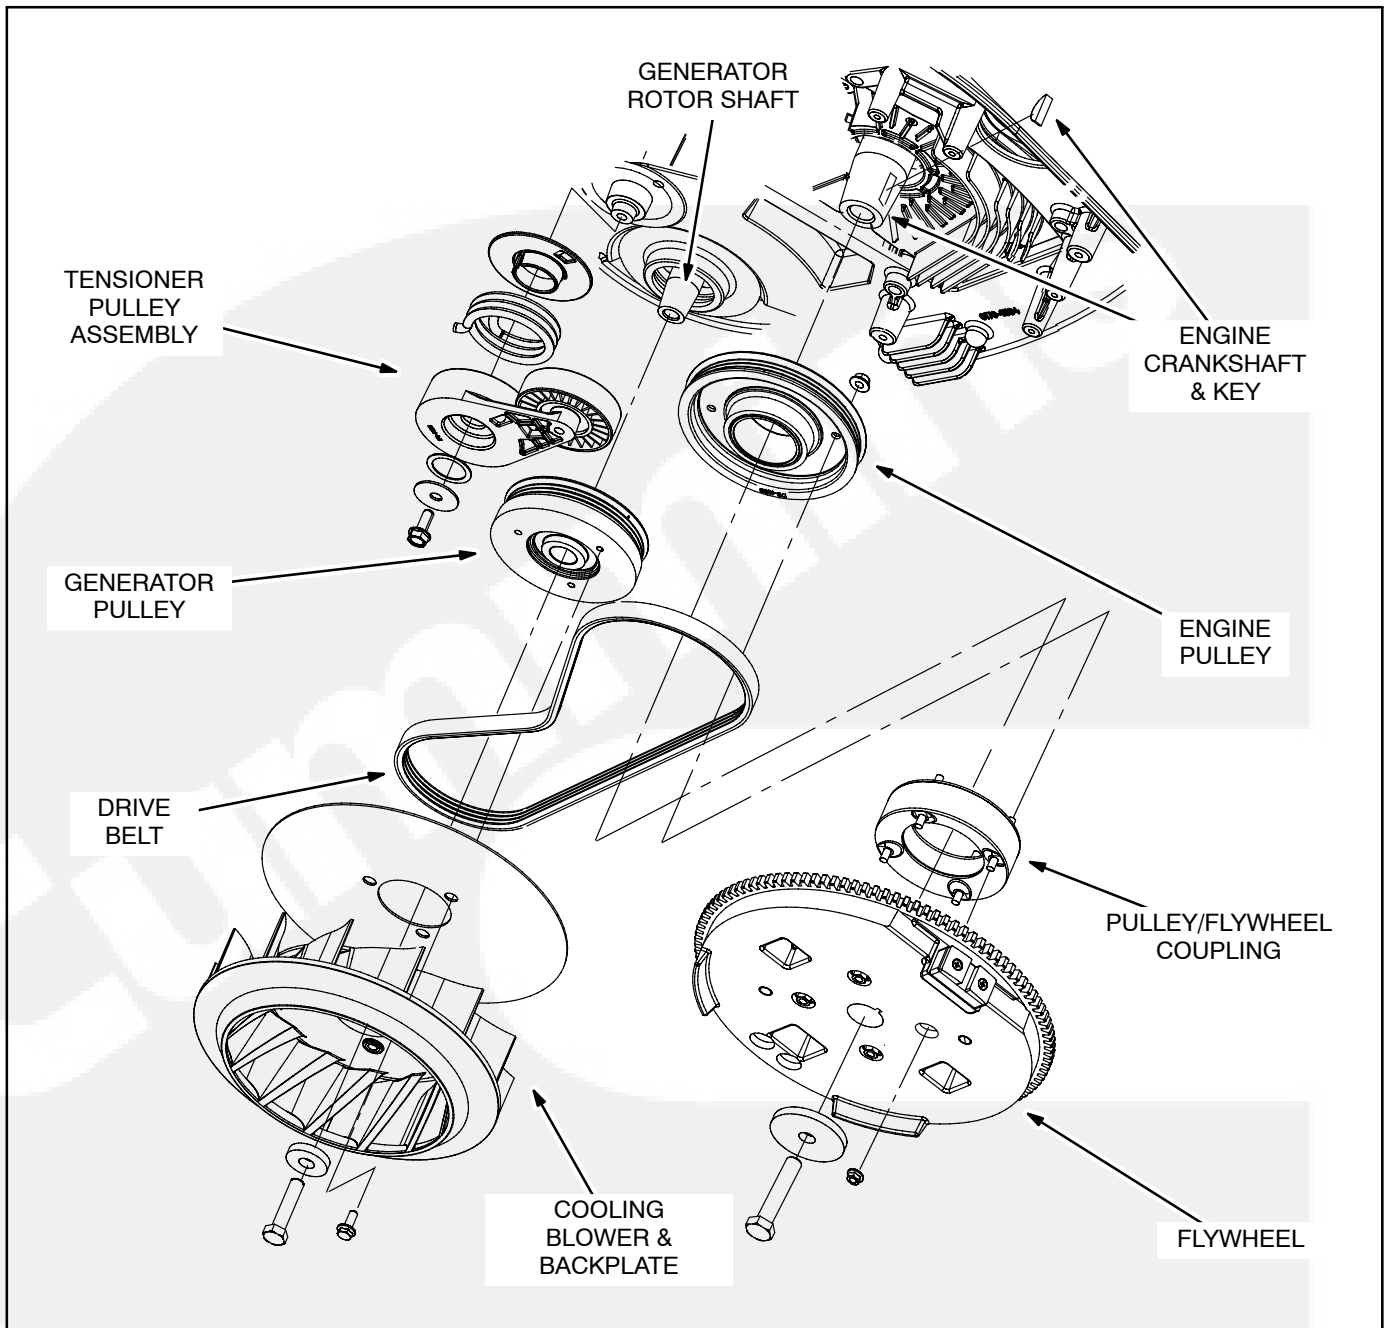

FIGURE 7-2. BELT DRIVE
The engine drives the generator by means of a 4-rib "Poly-Vee" belt (Figure 7-2). The engine pulley is coupled to the engine side of the flywheel, which is center-bolted and keyed to the engine crankshaft taper. The cooling fan and backplate are bolted directly to the generator pulley, which is center-bolted to the generator rotor shaft taper. The various generator/engine speed combinations tabulated in Section 13. *Specifications* are obtained by employing various pulley ratios.
3. Remove the three bolts securing the fan (blower) and its back plate (Figure 7-2) and remove them from the pulley.
4. Remove the four nuts in the face of the flywheel that secure the pulley coupling to the flywheel (Figure 7-2). (Otherwise, it will be necessary to remove the generator pulley to seat the belt back on both pulleys.)